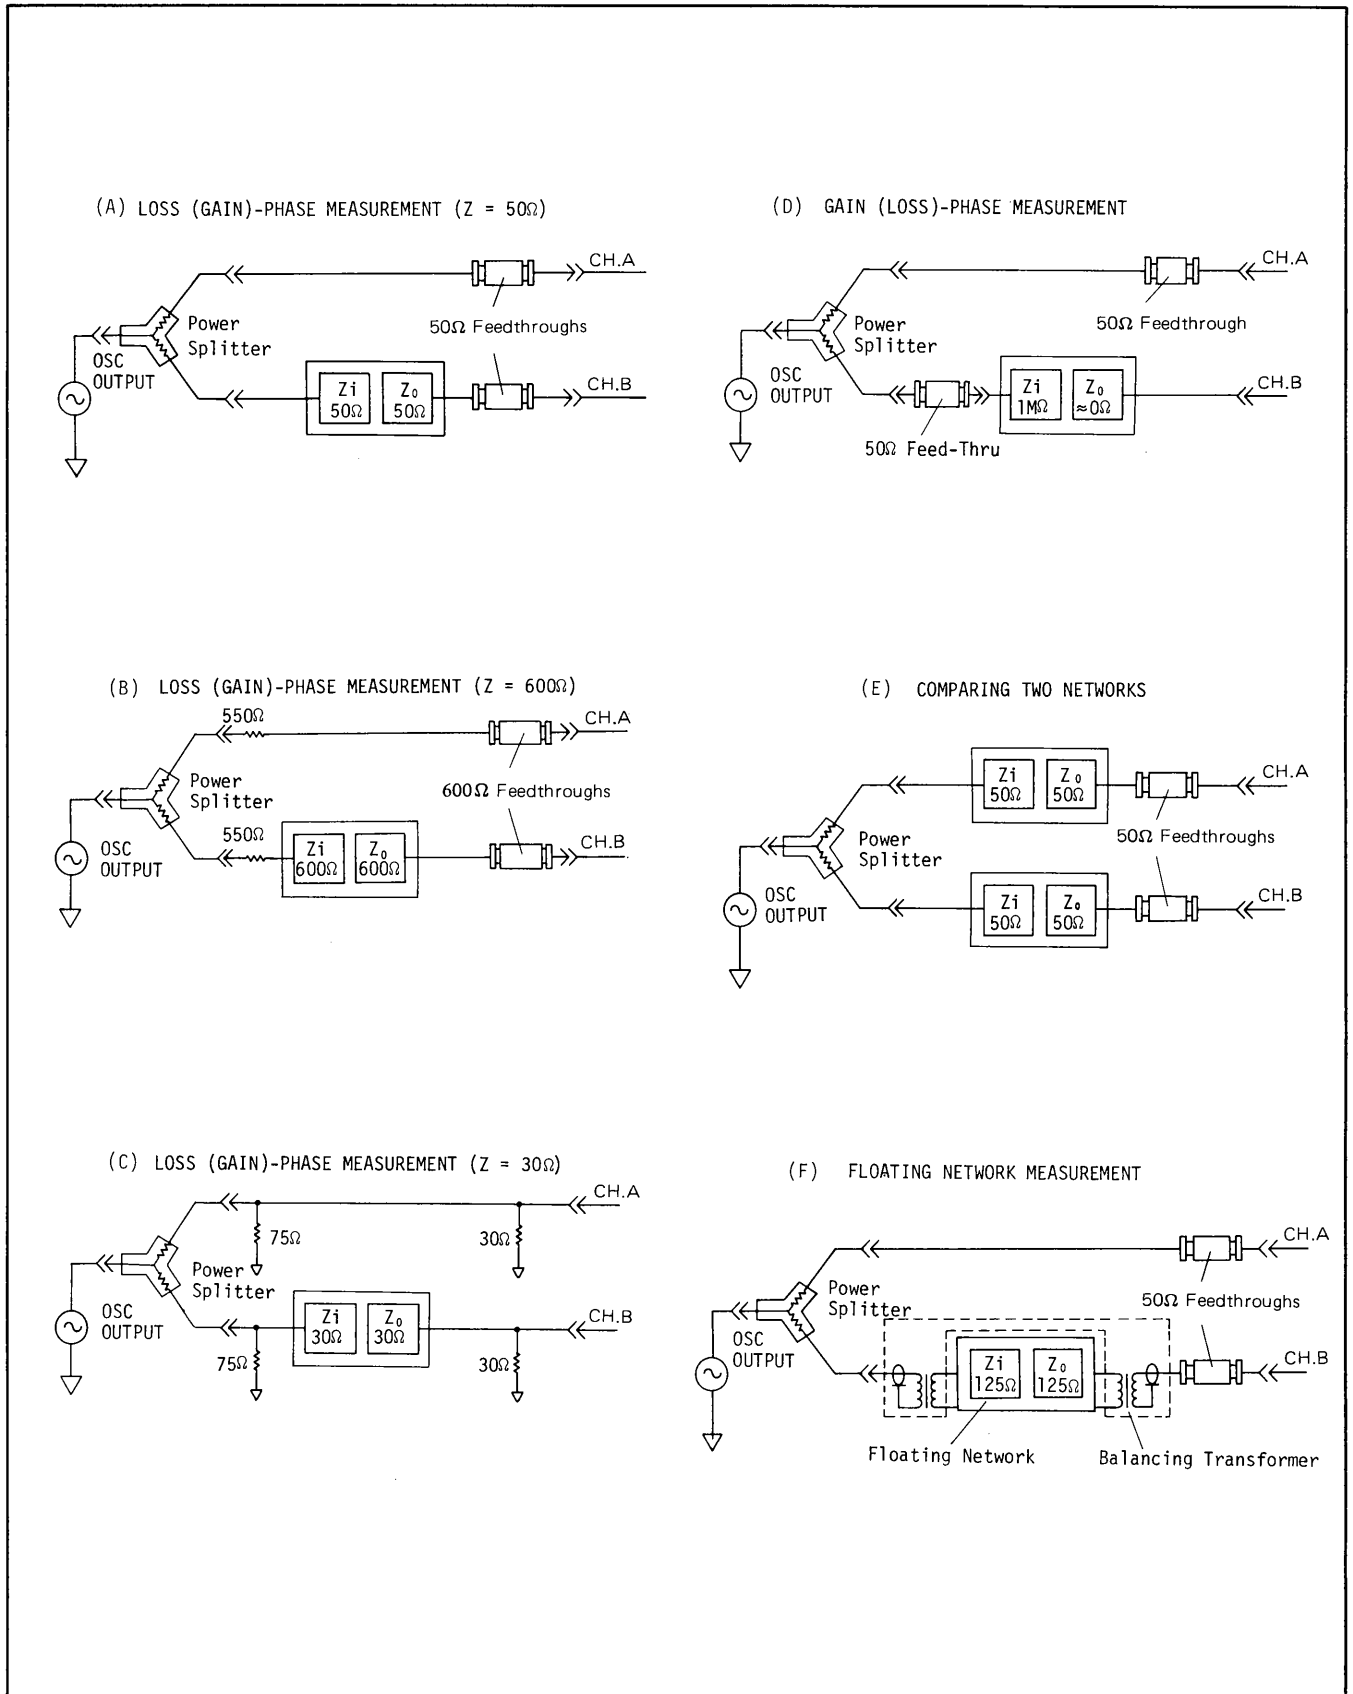

Figure 3-8. Input Configurations
3-47. Figure 3-8 illustrates and describes the basic input configurations for various types of measurements. Connections of these input configurations should be made using double-shielded cables with BNC connectors as listed in Table 3-9. When making input connections, observe the following guidelines:
Note: When making a relative gain/loss (B-A) measurement with either the 4192A or a Network Analyzer using the input configurations shown in Figure 3-8, the measurement results are the same but those of an absolute amplitude (A/B) measurement may differ. This is because the 4192A uses a passive (2-resistor) power splitter and the Network Analyzer uses an active power splitter.
3-49. In most measurement applications the network under test must be driven and terminated in its characteristic impedance. If the characteristic impedance of the network matches the 50Ω output impedance of the 4192A OSC OUTPUT, the network can be connected directly to the OSC OUTPUT through the power splitter as shown in Figure 3-8 (A). In this case, both the reference input and test input should be terminated with a 50Ω Feedthrough and connected to CHANNEL A and CHANNEL B, respectively.
3-50. If the characteristic impedance of the network is greater than 50Ω, a compensating resistor can be added in series with the OSC OUTPUT between the power splitter and the network to obtain the required output impedance. For example, if the input impedance of the network is 600Ω, a 550Ω resistor can be added in series with the 50Ω output to obtain the required 600Ω as shown in Figure 3-8 (B). Note that the reference input shown in Figure 3-8 (B) also has a compensating resistor to maintain identical impedances in both channels. In this case, both the reference input and test input should be terminated with a 600Ω Feedthrough and connected to CHANNEL A and CHANNEL B respectively.
For example, if the input impedance of the network is 30Ω, a 75Ω shunt resistor can be added in parallel with a 50Ω output to obtain 30Ω as shown in Figure 3-8 (C). Note that the reference input shown in Figure 3-8 (C) also has a shunting resistor to maintain identical impedances in both channels. In this case, both the reference input and test input should be terminated with the 30Ω shunt resistor and connected to CHANNEL A and CHANNEL B, respectively. When driving an impedance lower than 50Ω, a certain amount of insertion loss will be encountered. The amount of loss depends on the type of impedance matching network used and on the various impedance ratios. Whenever a loss is encountered, an equal loss should be introduced in CHANNEL A so that the reference input accurately represents the input of the network. This can be accomplished by placing identical shunt resistances and identical terminations in both channels.
3-52. When the network to be tested has a high input impedance (1 MHz) and low output impedance ( $\approx 0\Omega$ ), each channel should be terminated with a 50Ω Feedthrough and then the network can be connected to CHANNEL B as shown in Figure 3-8 (D).
3-53. Deviation measurement from reference network can be performed by inserting the standard network between the power splitter and CHANNEL B. Figure 3-8 (E) shows an input configuration of networks which have 50Ω characteristic impedance. In this case, both the
3-54. Floating networks can be measured by floating from the measuring circuit using one of the balancing transformers listed in Table 3-11. Figure 3-8 (F) shows the input configuration of a network which has 125Ω characteristic impedance. In this case, both the reference